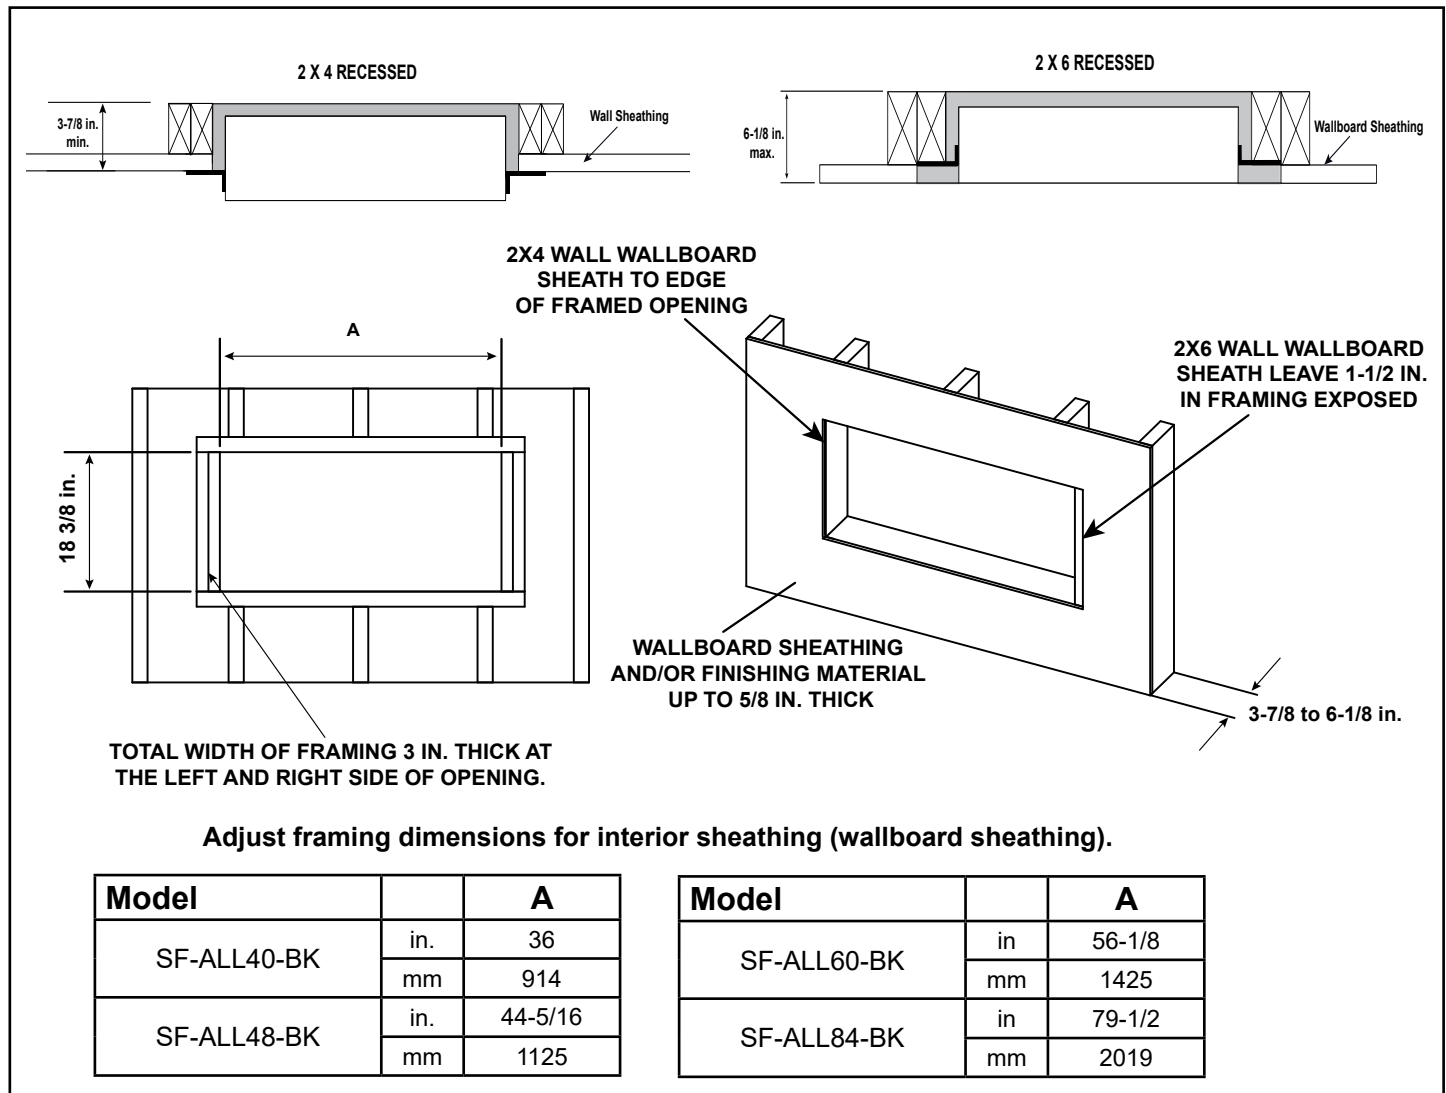
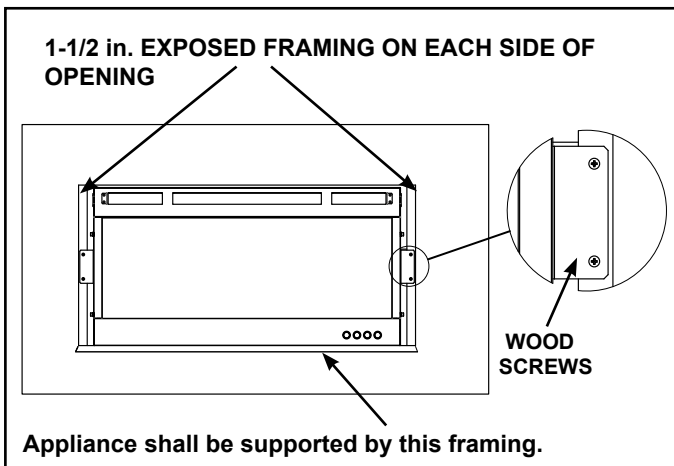
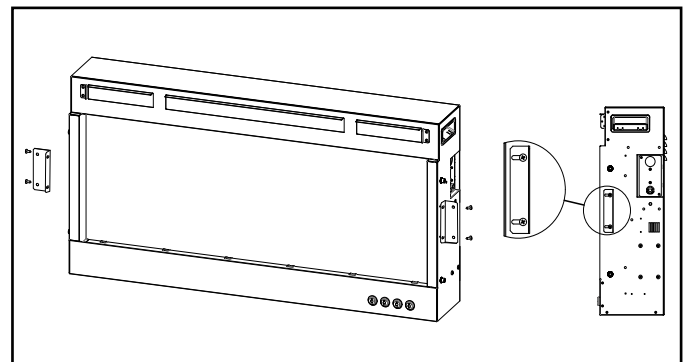
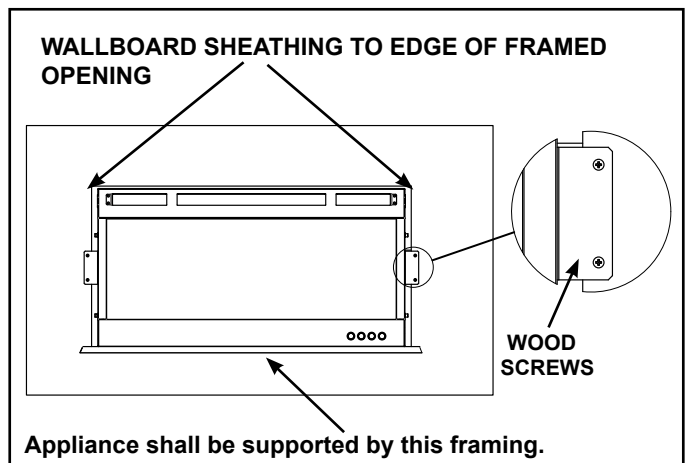

Figure 4.1 Framing and Wall Finishing for Recessed Installation
Figure 4.6 Securing the Appliance in 2 X 6 Framing
Figure 4.7 Fixing Brackets Attachment for Recessed Mounting in 2 X 4 in. Framing
Figure 4.8 Securing the Appliance in 2 X 4 Framing
1. Finish wall construction per requirements in Figure 4.1.
The width of the framing on each side of the opening must be 3 in. with 1-1/2 in. framing on the left and right sides of the opening exposed. This is needed for the wallboard finishing and to secure the appliance into the opening. See Figure 4.1.
Allow 1-1/2 in. of wood exposed after finishing the wallboard. See Figure 4.1 and Figure 4.6.
4. Install the appliance into the opening so the weight of the appliance is supported by the bottom framing. Level with shims if necessary. Ensure that it is centered left to right, then fasten it directly to the framing with four (4) ST4X40 screws through both the left and right brackets. See Figure 4.6.
The width of the framing on the left and right sides of the opening must be 3 in.. This is needed for the wallboard finishing and to secure the appliance into the opening. See Figure 4.1 and Figure 4.8.
Wallboard should be finished up to the edge of the framed opening. See Figures 4.1 and 4.8.
2. Install the Fixing Brackets to the right and left side of the appliance. If necessary, remove the Fixing Brackets, and reorient them to the position of 2X4 framing. See Figure 4.1 and 4.7. Attach each Fixing Bracket to the appliance with two (2) ST4X40 screws and washers. See Figure 4.7 for proper bracket orientation.
4. Install the appliance into the opening so the weight of the appliance is supported by the bottom framing. Level the appliance. Ensure that it is centered left to right, then fasten it directly to the framing with two (2) ST4X40 screws through both the left and right brackets. See Figure 4.8.